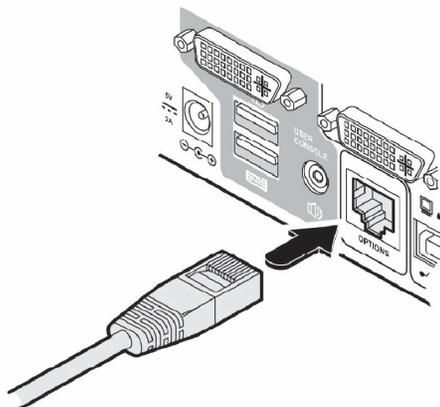

FIGURE 3-16. CONNECTING A COMPUTER REMOTE CONTROL
1. Insert the 8p8c or 10p10c connector of the cable to the OPTIONS port on the rear panel of the unit. See Figure 3-16.